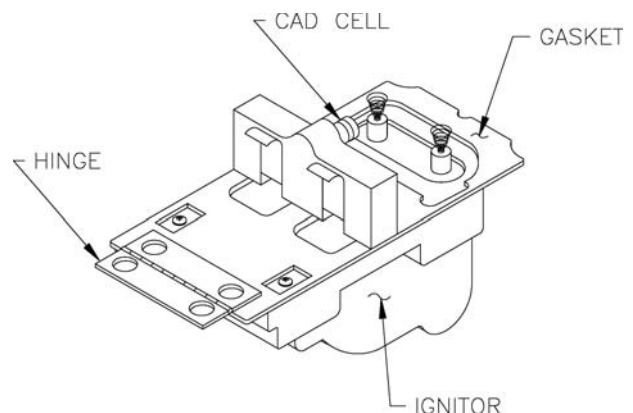

Figure 29: Cad Cell Location
- iv. Cad Cell Check: See Figure 29.